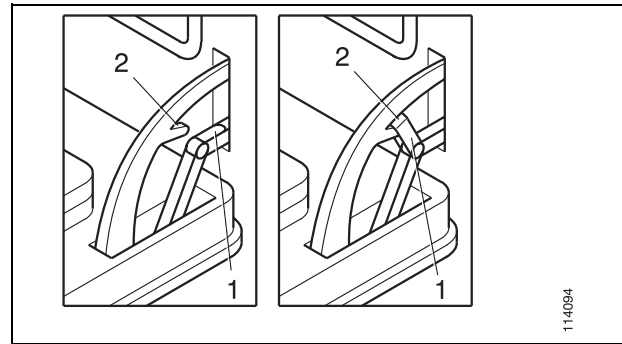

Figure 18.
3. Lift up the hinge bracket (1, Fig. 18) into the slot (2, Fig. 18).